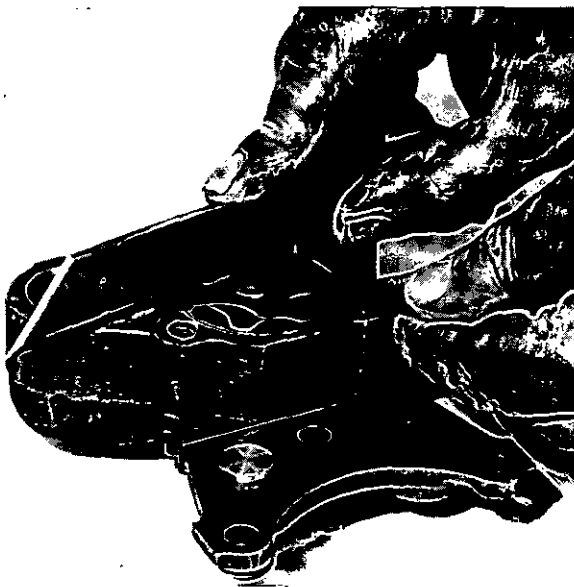

Fig. J.7
3. Check the clearance between top of rotors and end of pump body with feeler gauges and straight edge (Fig. J.7).